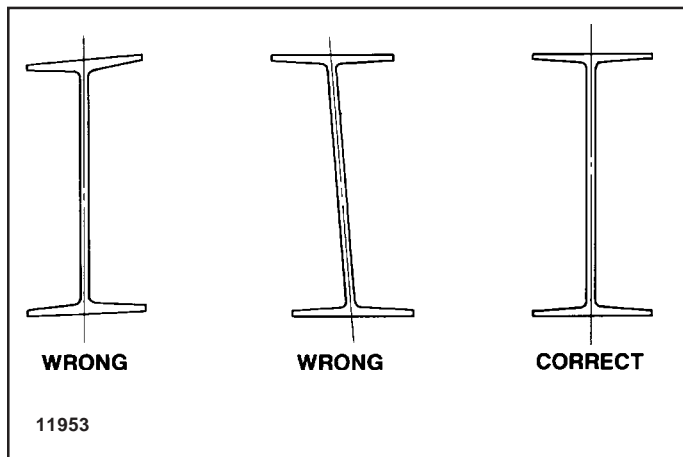

Figure 2. Correct Beam Selection.
**1. Bridge Beam.** Obtain one length of American Standard Section I-Beam of the size recommended (see chart on page 1) for the required capacity and span of bridge. The beam that you order must be a minimum length of the span plus 9-1/4". The I-beam selected must be straight with flanges parallel to each other and flanges at 90 degrees to the web. See Figure 2. For long spans with the larger rated loads, a channel is also required. The channel must be a minimum length of the span minus 4'0".